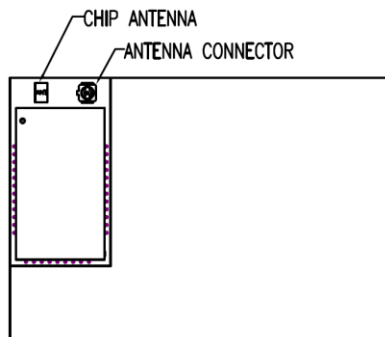
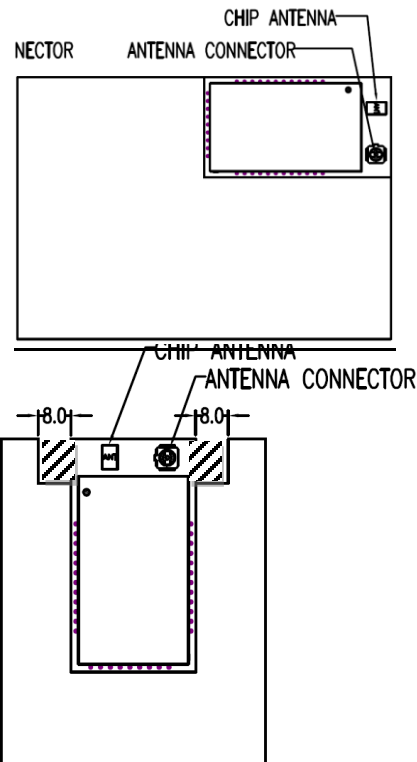

Figure 6-1: BT740-SA placement in the corner of host PCB.
Figure 6-2: BT740-SA placement in the edge (not corner) of host PCB (with modified antenna keep-out).
- For best antenna performance, place the BT740-SA module on the edge of the host PCB, preferably in the corner with the antenna facing the corner. An example shown in Figure 6-1.
- The antenna-keep-out defined in PCB Land Pattern and Antenna Keep-out area for BT740-SA applies when the BT740-SA is placed in the corner of the host PCB. When BT740-SA cannot be placed as such, you must place it on the edge of the host PCB and use a modified antenna keep out. This antenna keep-out modification is shown in Figure 6-2 (antenna keep-out is extended by 8 mm on both sides).
2. For BT740-SA (with on-board chip antenna) best antenna performance, the module BT740-SA **must** be placed on the edge of the host PCB, preferably in the **corner** with the antenna facing the corner (see Figure 6-1). The module is placed in the **corner** of host PCB above the keep-out area. If the BT740-SA is placed on the edge instead, the keep-out area must be modified (see Figure 6-2 in section 6.3.1).